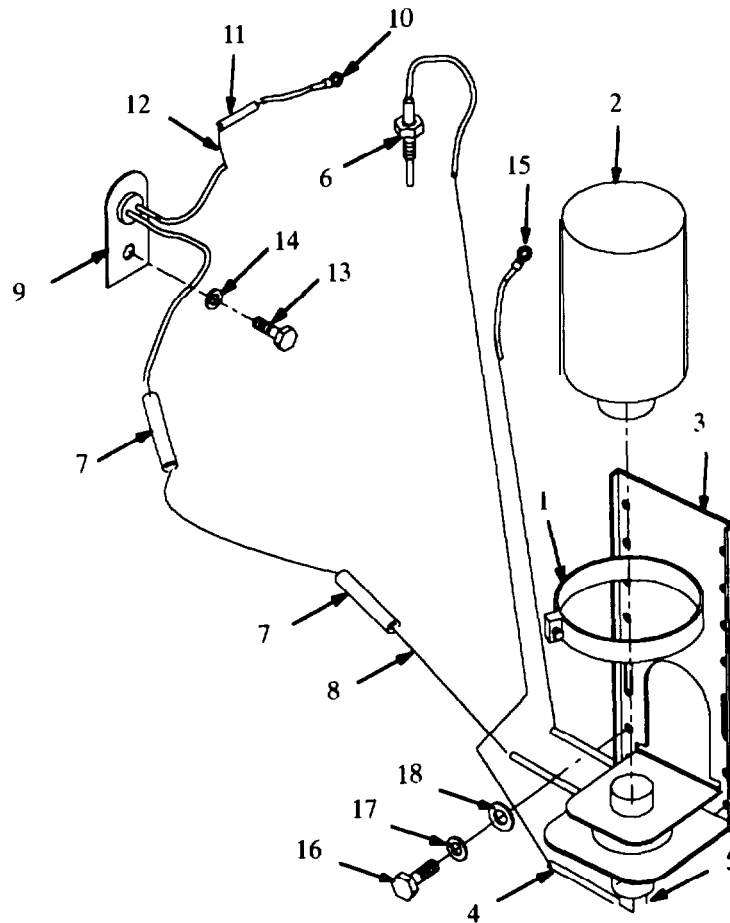

Figure 4-6.1. Starting Aid Solenoid Maintenance (Model 350 PAWN).
- d. Connect two hoses (1) to reservoir (2).
4.10.3.4.3. Installation. (Refer to Figure 4-6.1)